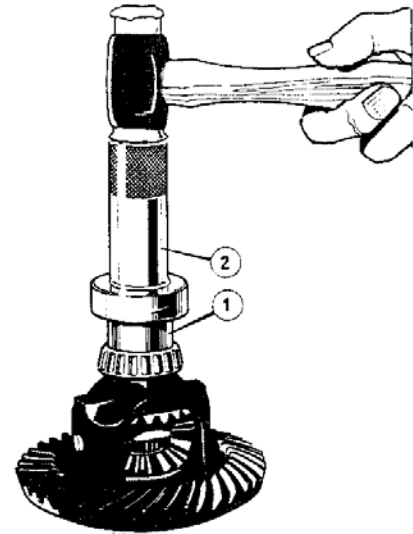

Figure 14 Replacing the differential bearing using special tool and universal handle
2. Replace the correct shims on the differential unit. Using a hide mallet and tool number RT 550.1 and universal handle 550, replace the differential unit bearing (**Figure 14**)